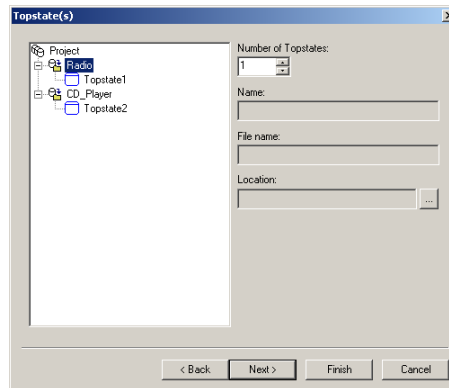

Figure 15: Topstate(s) dialog box, Navigator
- 5 Click *Next*. A Topstate(s) dialog box is displayed. See *Figure 15*, page 23.